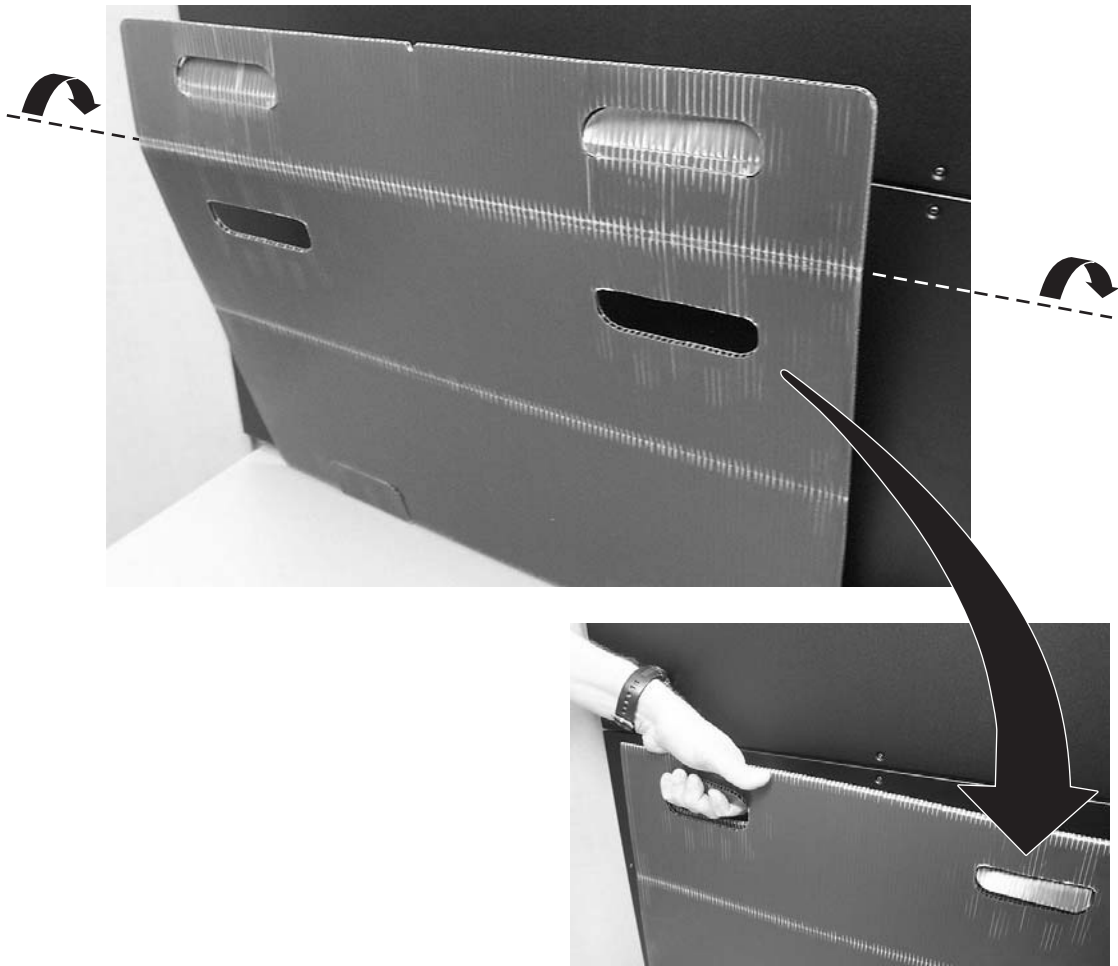

Figure 3-30. Sling
4. With a person on each side of the module, lift the module with the sling provided (see Figure 3-30 on page 3-28 to see how the sling handles should be folded).